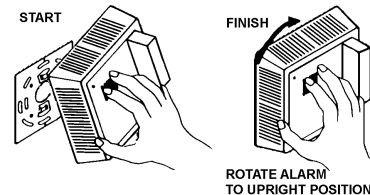

Figure 13
4. Mount the smoke alarm to the bracket as illustrated in Figure 13.